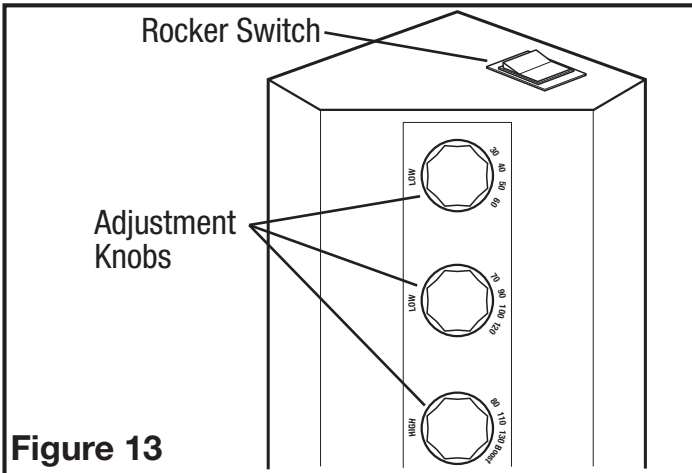

Figure 13
4. **VARIABLE SPEED:** First decide if you will require more or less than 65 CFM of ventilation on the low speed setting. If it is less than 65 CFM place the Low CFM Range rocker switch on the 30-60 range. If it is more, place the low CFM range rocker switch on the 70-120 range. Once you have decided on the minimum required airflow, the fans low speed CFM level can be adjusted by using either the lower adjustment knob (30-60 CFM) or the middle adjustment knob (70-120 CFM). The desired high speed CFM can be adjusted by using the upper most adjustment knob (Figure 13).